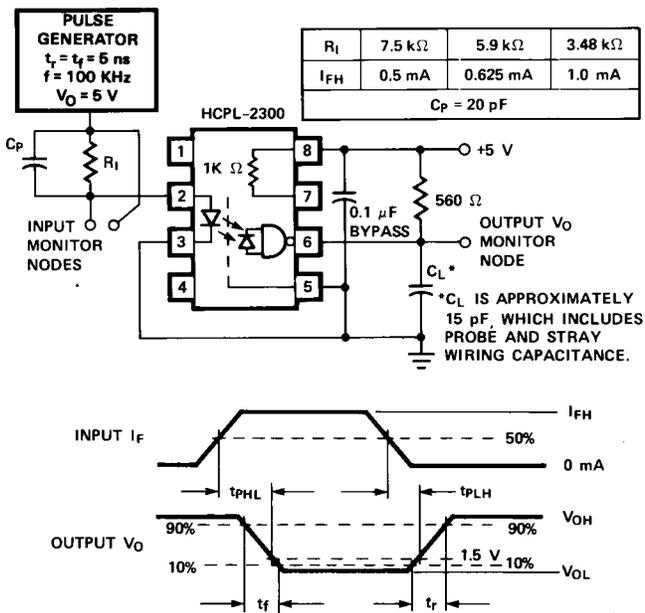

Figure 8. Test Circuit for t_{PHL}, t_{PLH}, t_r, and t_f.
- C_{P} is the peaking capacitance. Refer to test circuit in Figure 8.